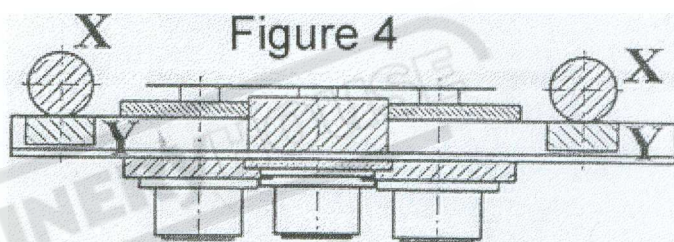

Figure 4
- Arrange the rolls in a position so that they are 3-4 % smaller than the required diameter (Figure 4)
If the profiles are thick walled you can use the rolls as shown in figures 4. If the wall thickness is thin then special rolls must be used.